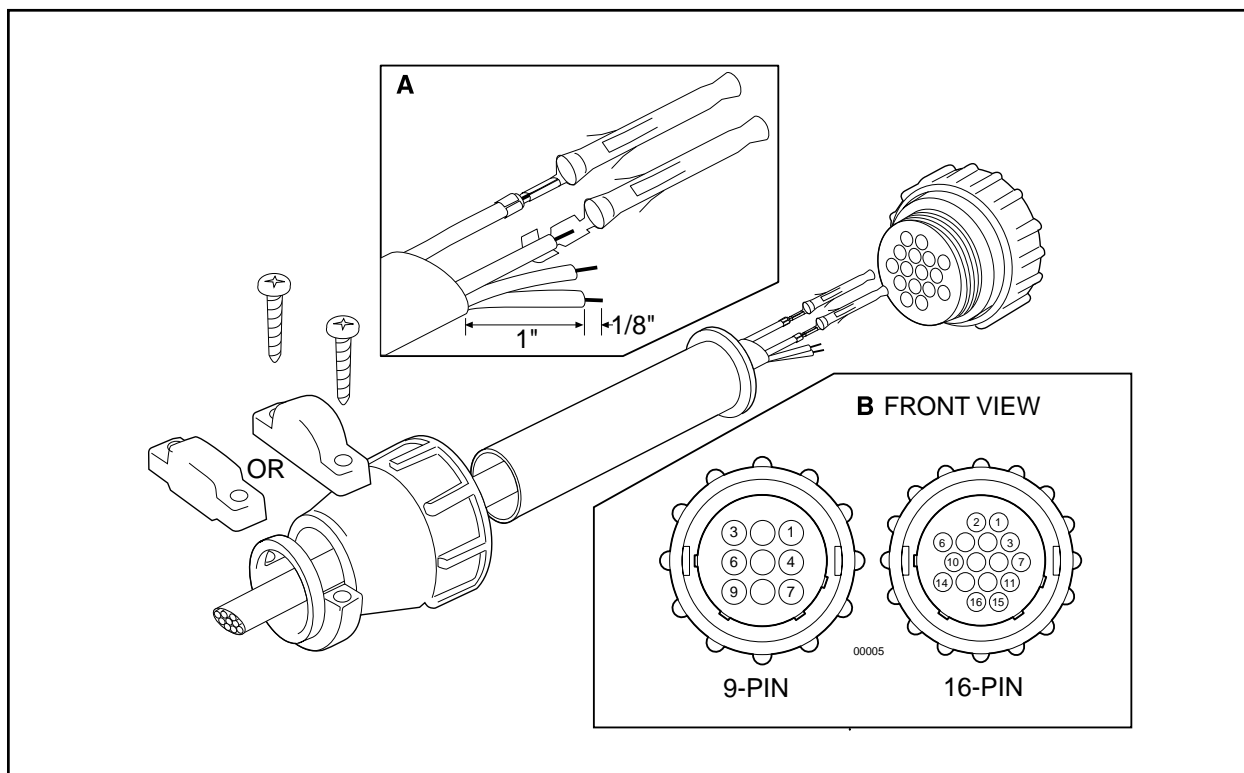
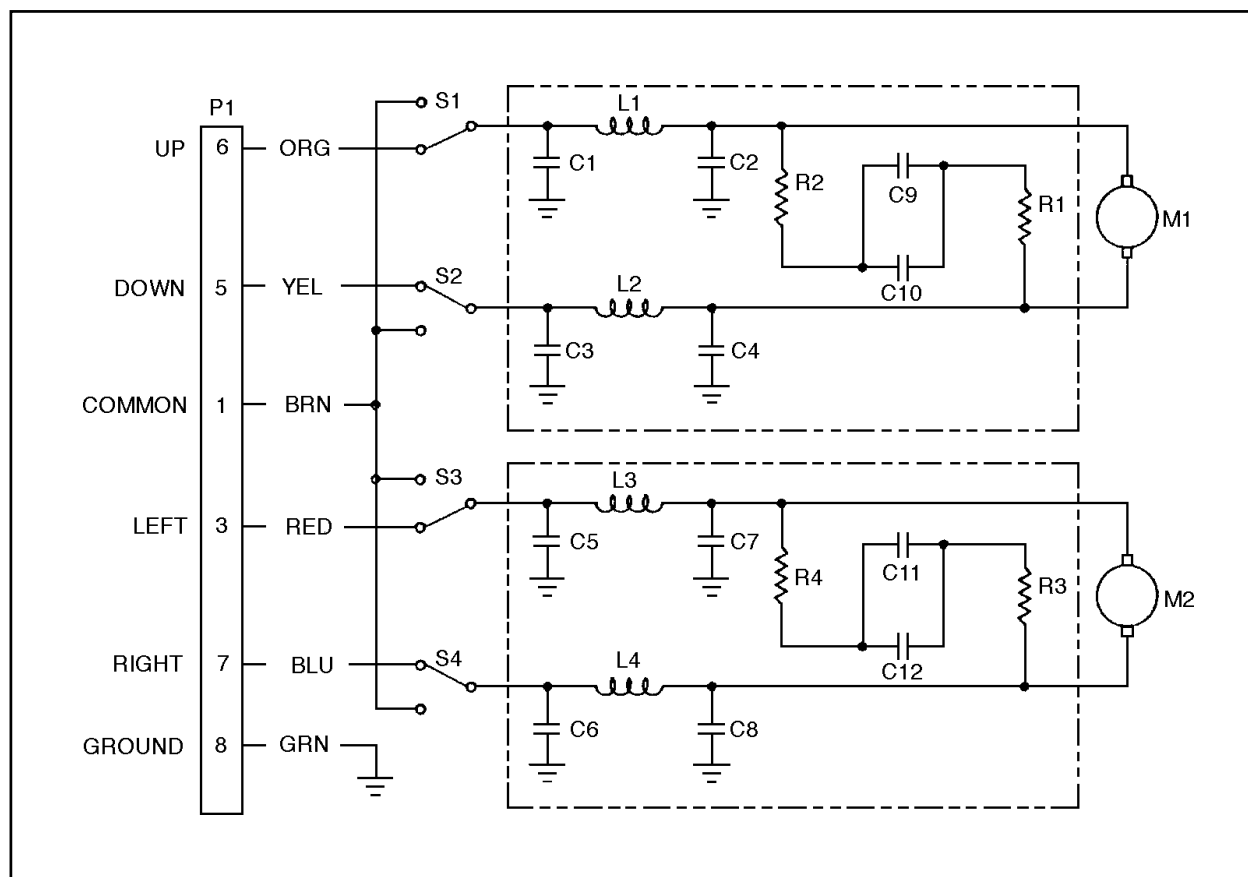

Figure 2. Connector Assembly
Figure 3. PT1250DC Wiring Diagram
To assemble the mating connector, refer to Figure 2 and perform the following steps.
2. Refer to Detail A in Figure 2. Prepare the wires from the conductor cable as follows:
3. Slide the connector pins into the appropriate holes in the connector body until they snap into place. Refer to detail B in Figure 2 and to Figure 3 or 4 for correct pin arrangement, depending on model and options.
Refer to Figure 3 or 4 for the following steps.